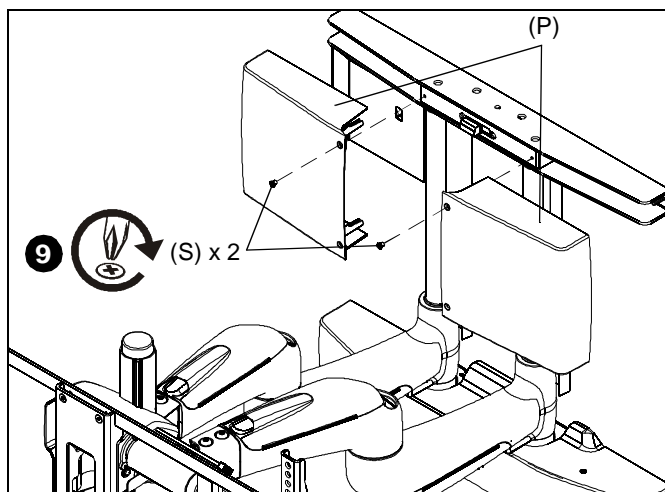

Figure 35
9. Add plastic covers (P) to PXR, fastening with two 8-32 x 1/4" Phillips flat head screws (S). (See Figure 35)